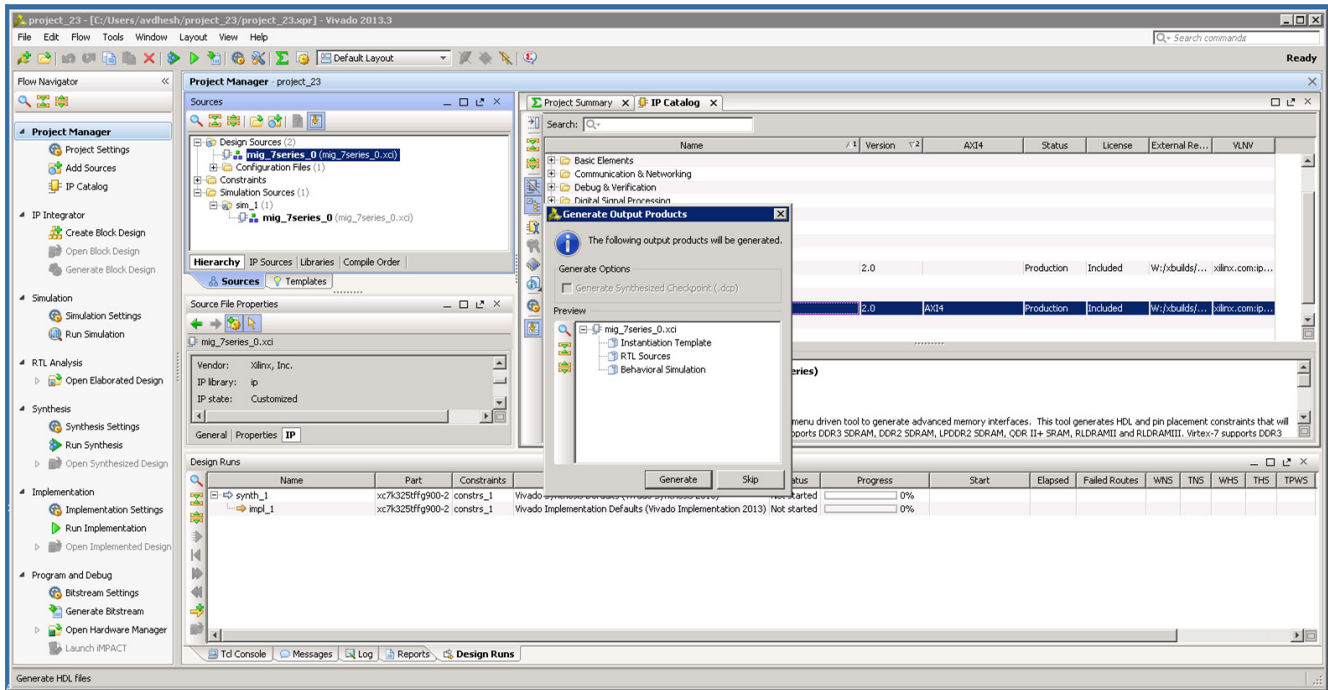

Figure 5-24: Generate Window
7. Clicking **Generate Output Products** option brings up the Manage Outputs window (Figure 5-24).